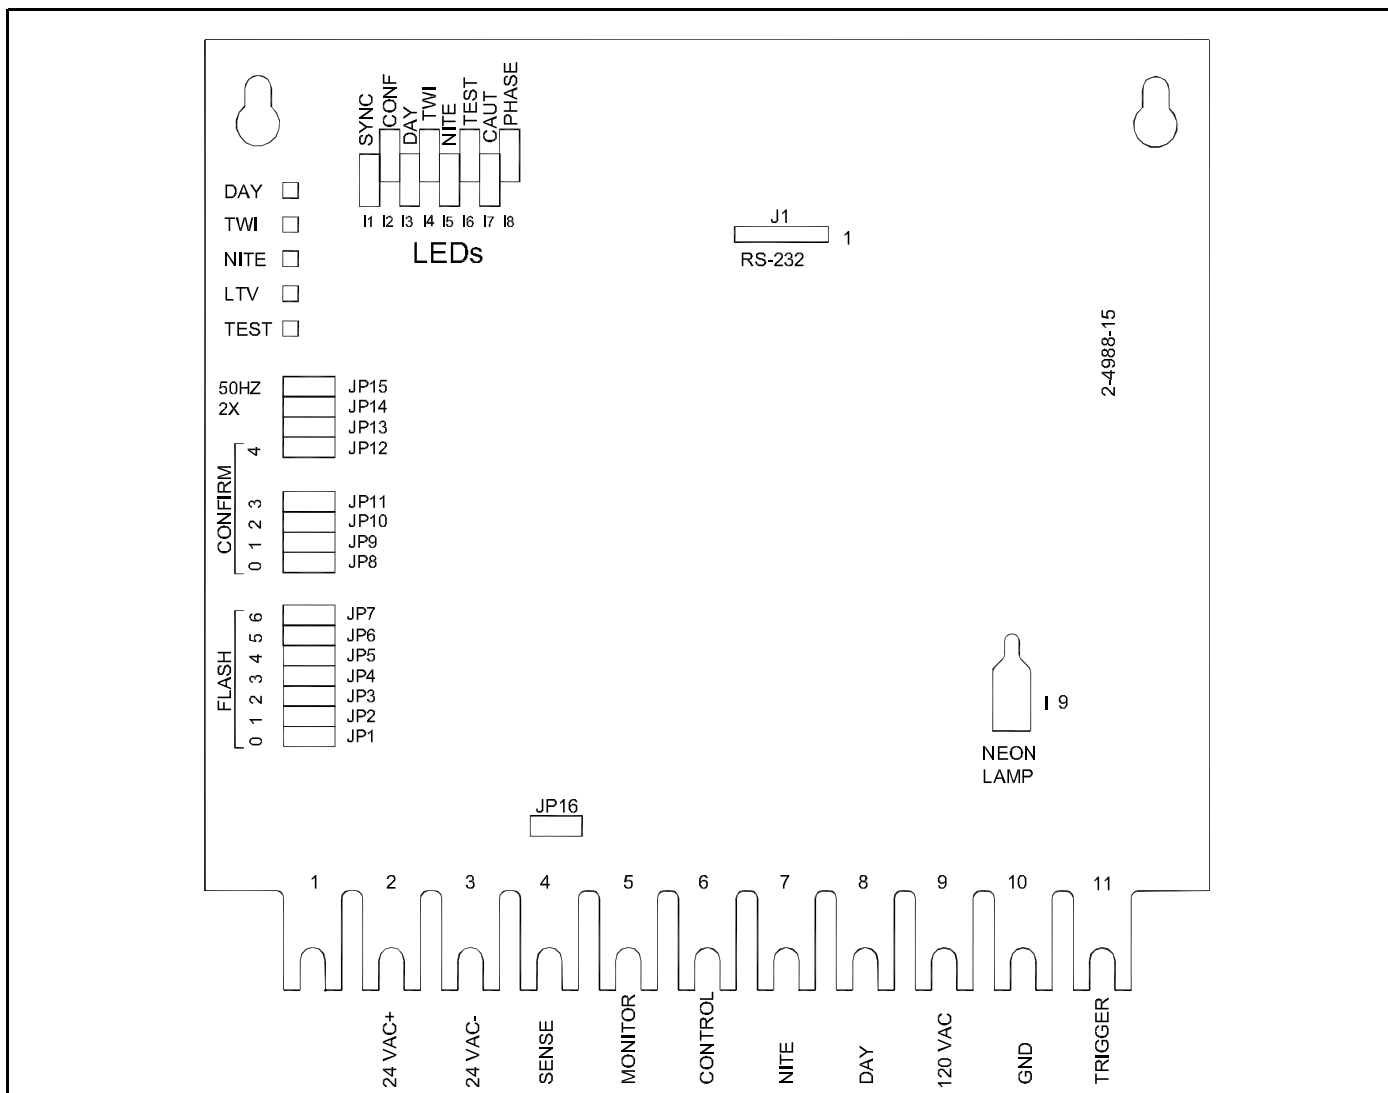

Figure 1-1 PCB1 Timing and Trigger Board Pictorial
Upon your order, the factory sets up the desired operation by cuttable jumpers or dipswitches and internal programming. However, you can change some operations in the field by using the information in the *Figure 1-1*. Otherwise, the operation is automatic. The indicator lights shown are useful for monitoring the equipment's operation.
Two sets of jumpers or dipswitches reside on PCB1. The first set, jumpers JP1 to JP7 or dipswitch S3 determine where the light will flash in the sequential system. Position one (1) flashes first then position two (2) flashes next and so on. *For example, if the system had three (3) lights and Light A had no jumpers cut or switches open and Light B had jumper JP1 cut or S3-1 open and Light C had jumper JP2 cut or S3-2 open, then the lights would flash in sequence A-B-C.* In a 50 Hz system there are 50 programmable positions and in a 60 Hz system there are 60. Note however, that a 50 Hz system controller will only monitor 25 lights and a 60 Hz system controller will only monitor 28 lights. If more lights are needed, use a second, synchronized, controller and separate monitor line. Table 1-2 shows which jumpers to cut for each position of the lights in the sequential system. This table also works for dipswitch S3; a dipswitch in the open or off position is the same as a cut jumper. Refer to *Figure 1-1* for jumper/dipswitch locations, labeled with the heading **FLASH**.
the light in the sequence. This table also works for dipswitch S2 and S1-1; a dipswitch in the open or off position is the same as a cut jumper. Refer to *Figure 1-1* for jumper/dipswitch locations, labeled with the heading **CONFIRM**.
Eight indicator LEDs and one neon lamp on PCB1 monitor equipment operation. A name imprinted on PCB1 adjacent to the lamp or LED identifies it. *Figure 1-1* shows the location of these indicators on the board.